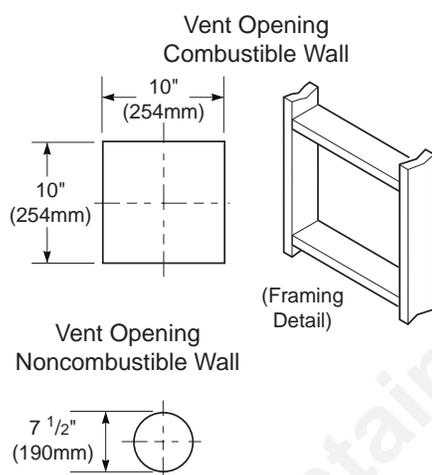
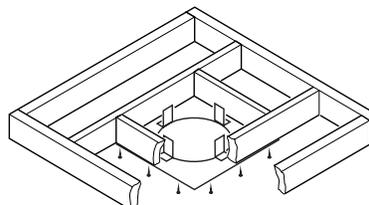

Figure 12 - Vent Opening Requirements
Figure 22 - Installing Firestop
- Attach vent pipe assembly to the fireplace. Set fireplace in front of its permanent location to insure minimum clearances. Mark the wall for a 10" square hole (for noncombustible material such as masonry block or concrete, a 7 1/2" diameter hole is acceptable). See Figure 12. The center of the hole should line up with the center-line of the horizontal rigid vent pipe. Cut a 10"x10" (254mm x 254mm) square hole through combustible exterior wall (7 1/2" [190mm] diameter hole if noncombustible). Frame as necessary (see Figure 12).
- Cut a 10" square hole in the ceiling using the locating hole as a center point. The opening should be framed to 10"x10" (254mm x 254mm) inside dimensions, as shown in Figure 12 on page 9 using framing lumber the same size as the ceiling joists. If the area above the ceiling is an insulated ceiling or a room, nail firestop from the top side. This prevents loose insulation from falling into the required clearance space. Otherwise, install firestop below the framed hole. The firestop should be installed with no less than three nails per side (see Figure 22).
- Cut a hole in the roof using the locating hole as a center point. (Cover any exposed open vent pipes before cutting hole in roof.) The 10"x10" hole must be measured on the horizontal; actual length may be larger depending on the pitch of the roof. There must be a 1" clearance from the vent pipe to combustible materials. Frame the opening as shown in Figure 12 on page 9.